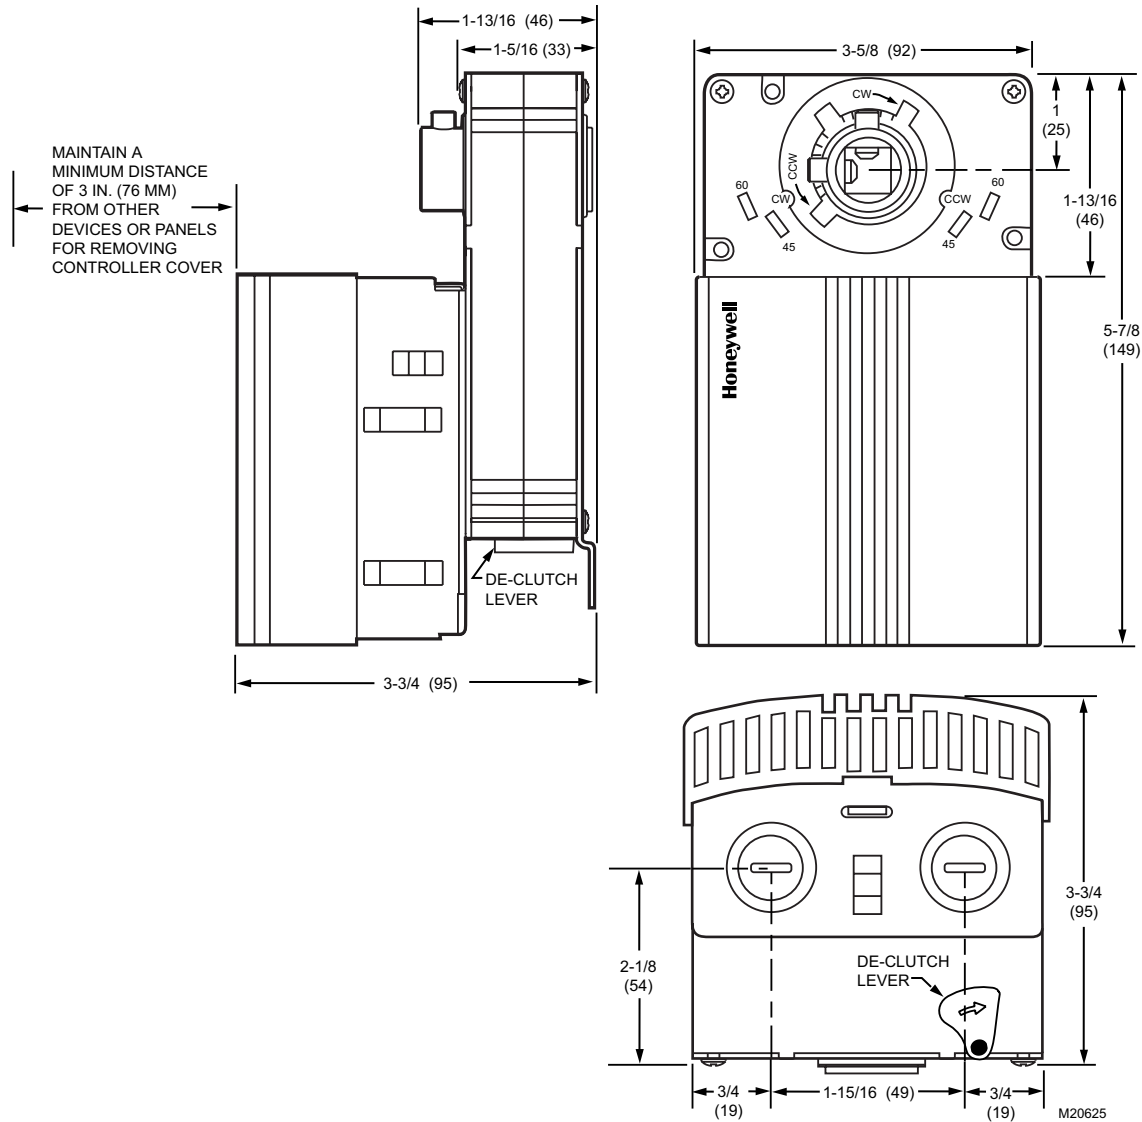

Fig. 2. W7751J mounting dimensions in in. (mm).
The ML6161B Direct-Coupled Actuator with De-clutch mechanism (see Fig. 2 for location) allows the installer to manually open or close the VAV box damper connected to the W7751J without power or software tool to command it.
Mount the W7751J on the damper shaft (horizontal only) and allow clearance for wiring, servicing and module removal. Avoid mounting the W7751J in areas where acid fumes or other deteriorating vapors can attack the metal parts of the actuator, or in areas where escaping gas or other explosive vapors are present. See Fig. 2 for mounting dimensions.
The controller enclosure on the W7751J is constructed of a sheet metal housing and a plastic snap-on cover. Controller wiring on the W7751J is terminated to screw terminal blocks located under the snap-on cover. See Wiring section. The sheet metal housing has two 1/2 inch (13 mm) knockouts (see Fig. 2) compatible with 1/2 inch (13 mm) or 3/4 inch (19 mm) conduit.
*It is advisable to leave the dampers in an open position after W7751J installation to avoid the possibility of overpressurizing the ductwork on fan startup. Use the De-clutch lever (see Fig. 2 for De-clutch lever location) to open the box damper on W7751J controllers that are powered down, to prevent overpressurization in the ductwork on fan startup. To use the De-clutch lever, press and hold the lever in the direction of the arrow (this disengages the motor). Turn the damper shaft until the damper is open and release the lever. When power is restored to the W7751J controller, the controller synchronizes the damper actuator so that the damper is in the correct position upon startup.*